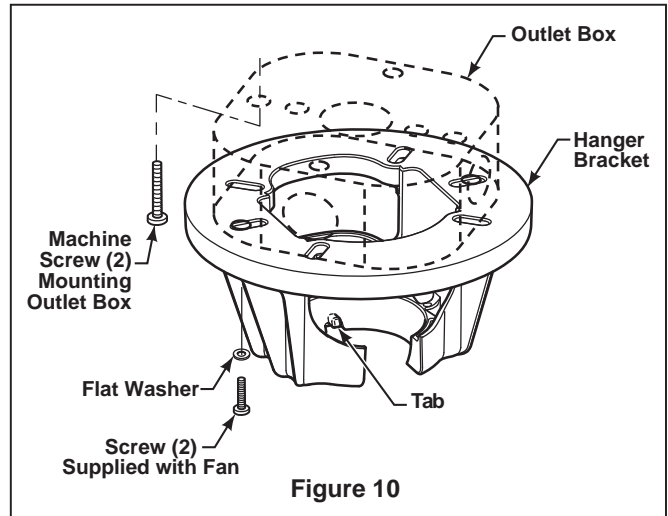

Figure 10
1. Securely attach the hanger bracket to the outlet box using the outlet box screws and washers supplied with the fan. (Figure 10)